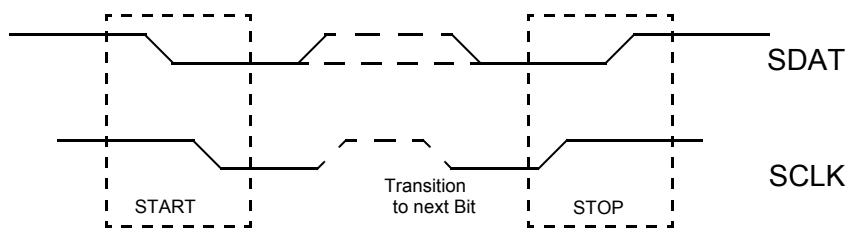

**Figure 2. Data Frame Architecture**
Start Bit; 7-bit Device Address (DA);  $\overline{R/W}$  Bit; Slave Clock Acknowledge (ACK); 8-bit Memory Address (MA); ACK; 8-bit Data; ACK; 8-bit Data in MA+1 if desired; ACK; 8-bit Data in MA+2; ACK; etc. until STOP Bit. The basic serial format is illustrated in *Figure 2*.